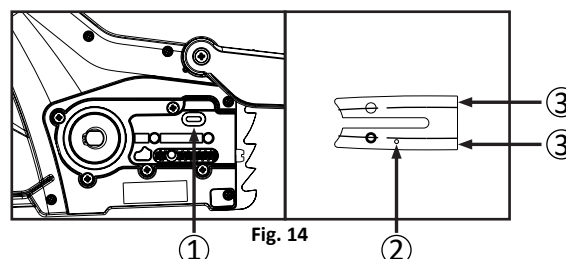

Fig. 14
**Cleaning the guide bar and the chain (Fig. 14)**
3. Clean the oil outlet (1), oil inlet (2) and the rear groove of the guide bar (3) with a soft brush.